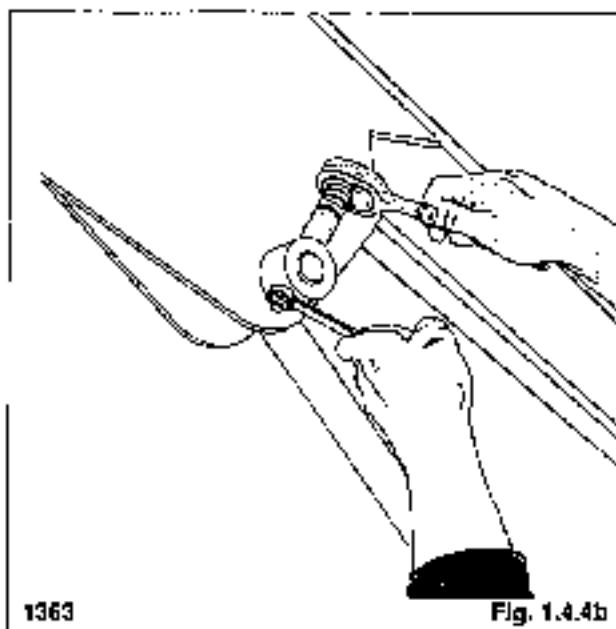

Fig. 1.4.4b
- Remove the locknut, washer and bolt from the pivot pin at the rod end of the boom cylinders (fig. 1.4.4b).